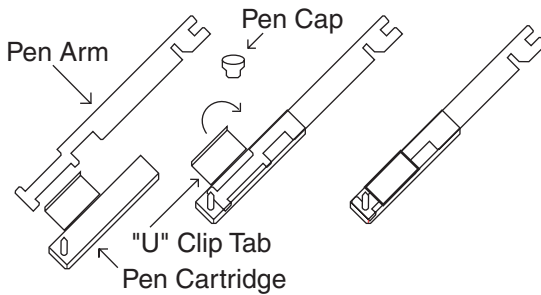
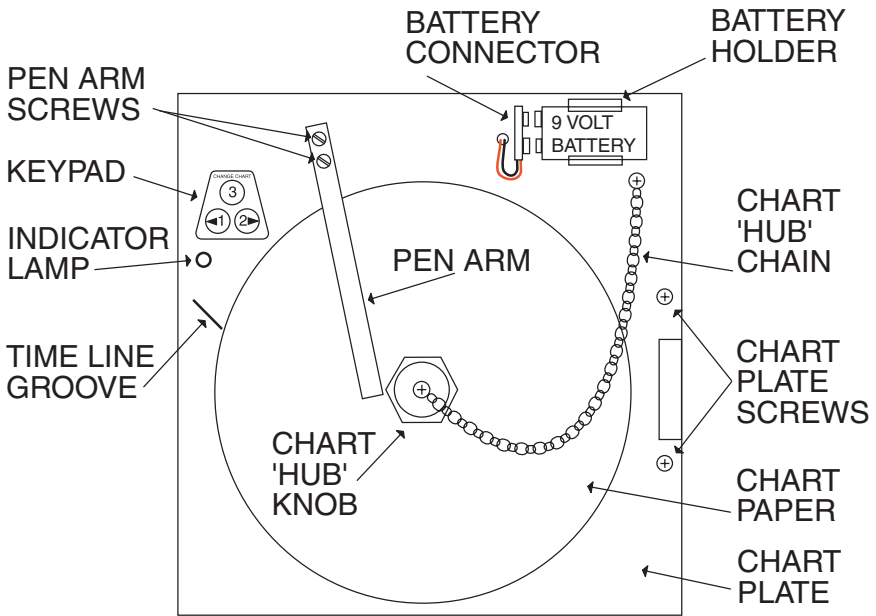

Figure 2-4 Pen Installation / Replacement
Figure 2-5 Recorder Platen Layout/Battery Installation
In order to connect the recorder to the main AC power, you must first gain access to the microprocessor PC board that is mounted to the back of the chart plate. Your recorder will have a hinged chart plate held in place by two (2) screws located on the right hand side of the chart plate. Remove these two screws and open the hinged chart plate. If you are not sure how to access the back of the chart plate. See Figure 2-5 (pg. 13) for screw location.
The recorder has a hinged chart plate held in place by two (2) screws located on the right hand side of the chart plate. Remove these two screws and open the hinged chart plate. See Figure 2-5 (pg. 13) for screw location.
Two-wire RTD's should be used in short lead lengths, if possible, for the purpose of accuracy. A 0.4 ohm lead resistance of a two-wire RTD will produce 1 degree C temperature error. RTD connection are shown in Figure 2-4, with the compensating lead connected to terminal 4. For two-wire RTD inputs, terminals 2 and 4 should be linked. The three-wire RTD offers the capability of lead resistance compensation provided that the three leads are of same gauge and equal length.
DC linear voltage and linear current connections are also shown in Figure 2-5. Terminal 2 = negative. Terminal 3 = positive.
If your recorder has the optional relay contacts installed, then terminal blocks J1 and J2 have been provided for connection to the relay on the microprocessor PC board of the recorder. Refer to Figure 2-4 (page 9) for the location of J1 and J2 on the microprocessor PC board.
Refer to Figure 2-5 (pg. 13) for the location of the time line groove.
For ease of replacement, it is suggested that the two (2) screws that hold the pen arm be loosened and the pen cartridge and metal pen arm be removed as an assembly. Refer to Figure 2-5, pg.13, for the location of the pen arm screws. Unsnap the plastic “U” clip tab of the pen cartridge from the metal pen arm, remove and discard the old pen cartridge. Replace the new cartridge by opening the hinge and snapping it securely around the metal pen arm. Refer to the Figure 2-4 .
The battery strap and battery holder are located on the front of the chart plate (refer to Figure 2-5). In order to change the battery, you must open the recorder case door. Note: Use only NEW 9 volt alkaline replacement batteries.